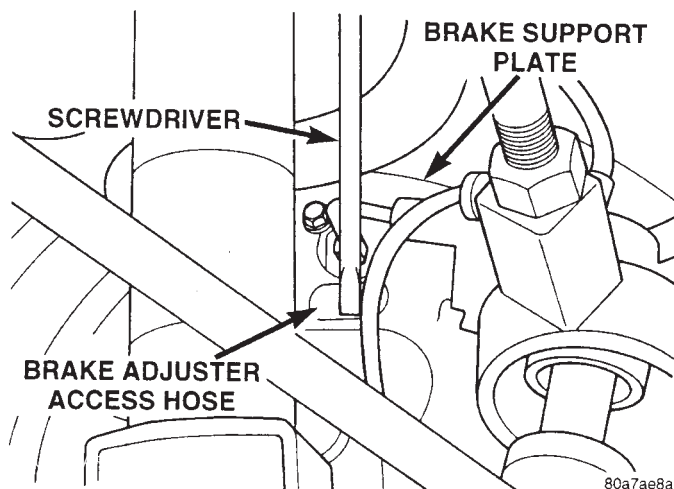

*Fig. 57 Backing Off Rear Brake Shoe Adjustment*
(2) Insert a screwdriver, through the automatic adjuster access hole, in the rear brake support plate (Fig. 57). Engage screwdriver with the teeth on the adjuster mechanism quadrant. Then rotate quadrant
so that the teeth on the quadrant are moved toward the front of the vehicle (Fig. 57). This will back off the adjustment of the rear brake shoes.